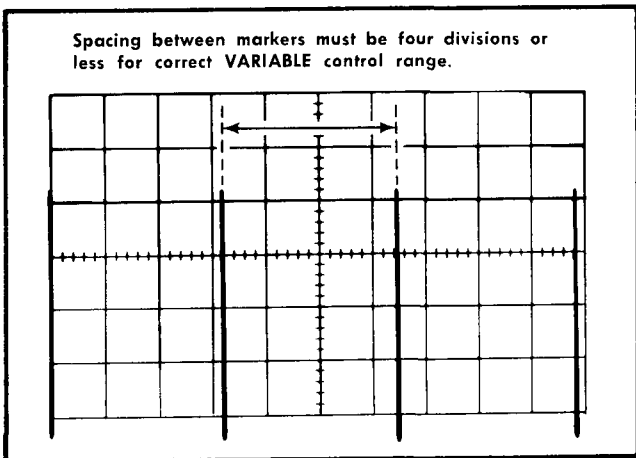

Fig. 5-25. Typical CRT display when checking A and B VARIABLE control range.
f. CHECK—CRT display for four-divisions maximum spacing between markers (indicates adequate range for continuously variable sweep rate between the calibrated steps; see Fig. 5-25). UNCAL A OR B light must be on when A VARIABLE control is not in CAL position.
- d. CHECK—CRT display for four-division maximum spacing between markers (indicates adequate range for continuously variable sweep rate between the calibrated steps; see Fig. 5-25). UNCAL A OR B light must be on when B VARIABLE control is not in CAL position.